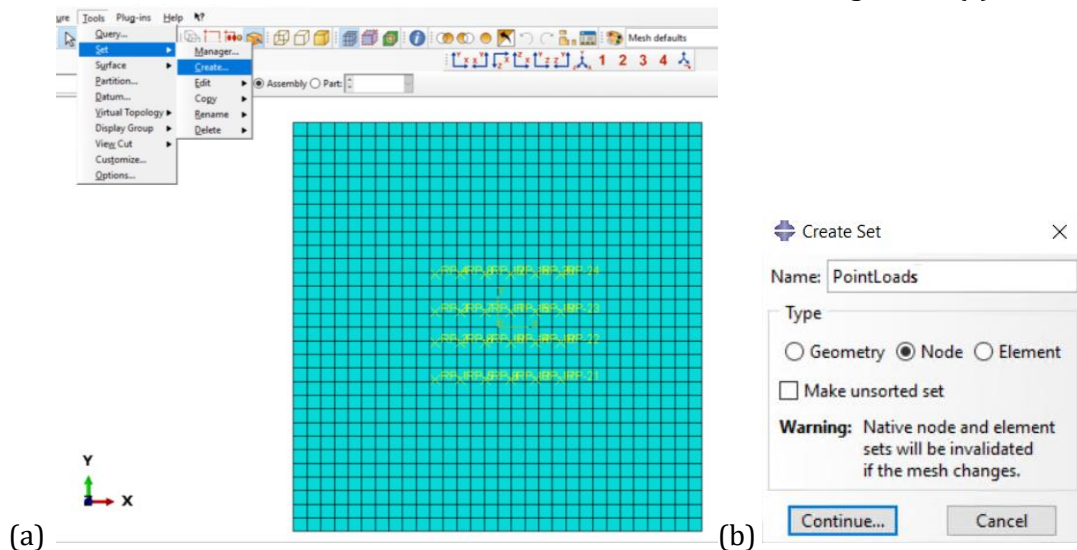

Figure 2-2 – Create new set for nodes representing the position of the point loads.
2. Move to the **Mesh** module and choose **Tools – Set – Create**. See Figure 2-2(a).
- Use type **Node** (see Figure 2-2(b)) and click **Done** in the prompt area. **NB: Object** needs to be selected as **Assembly** because the reference points are created in the Assembly module.